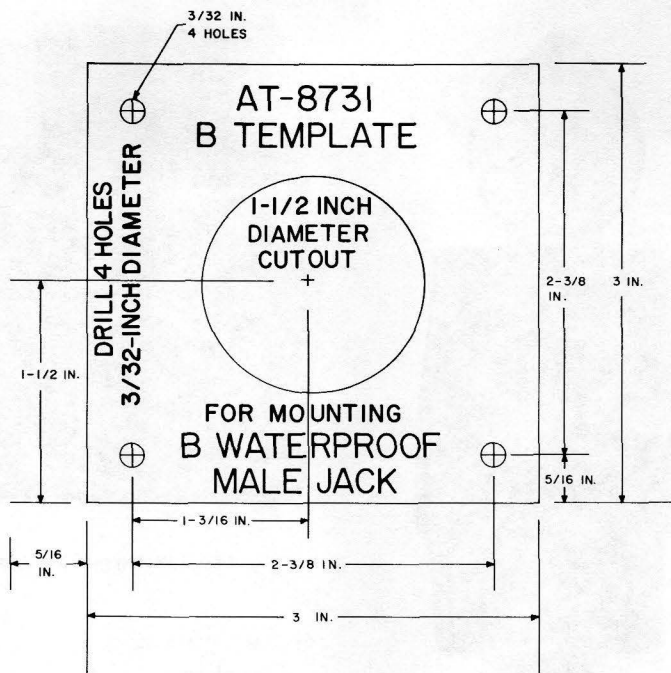

Fig. 16—B Template for Use on a Boat
- Template, B (for use on boat, Fig. 16)
2.12 The B template (Fig. 16) is used on the boat to locate the pilot holes for mounting screws and clearance hole for jack body for the B waterproof male jack. It is printed on index card stock and packed separately from the jack so that mounting holes may be prepared prior to jack installation.
- One B template (for cutting mounting holes for jack on boat, Fig. 16)